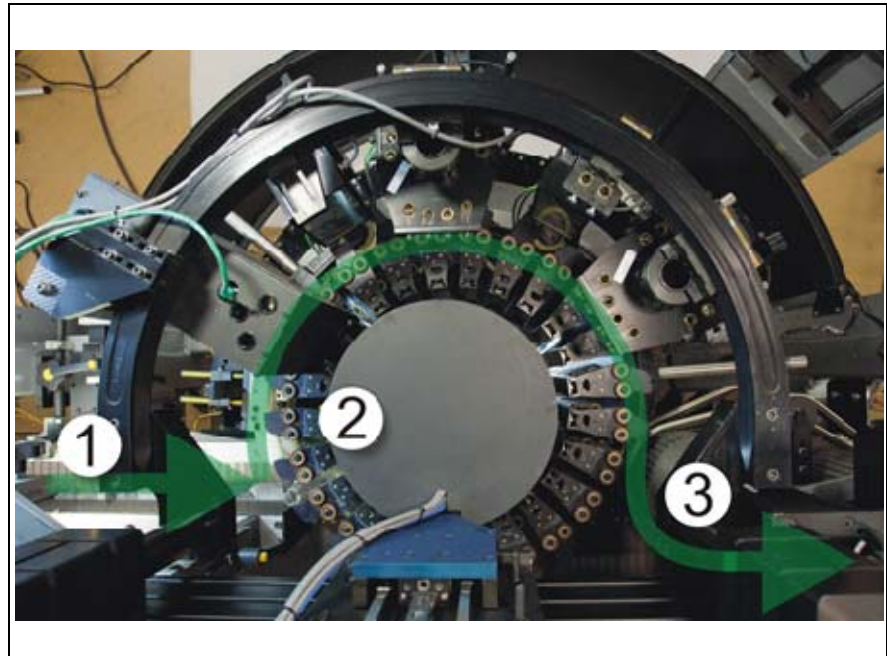

Figure 2: Container transport path (basket-style bottle carrier shown)
- 1 bottle carrier assembly. Bottle carriers are available in two styles: conventional-style starwheels (usually upper and lower starwheel assemblies) or the basket-style carrier (Figure 2). Both types of bottle carriers are described below. Bottle carriers are used to transport containers from the infeed screw(s), through the inspection stations, to the outfeed assembly.